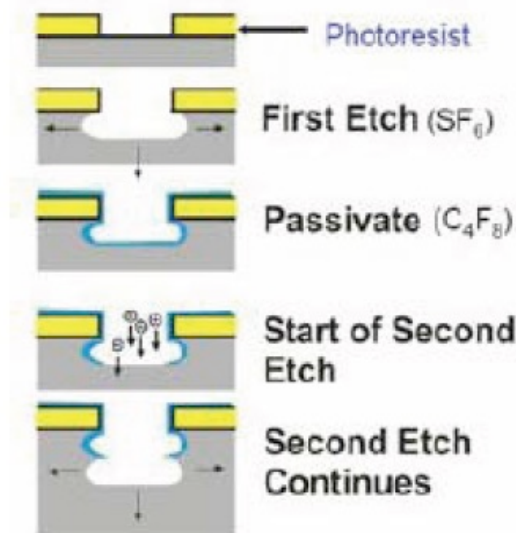

**Figure 1**
- (e) Refer to Figure 1. You are using 10:1 HF @ 20 °C to etch an MOS capacitor as shown. The etching rates are 1.0 nm/min and 30 nm/min for Poly-Si and SiO2 respectively. The as-printed mask line-width is 1 μm and you can only tolerate a maximum of 5% undercut on the poly-Si. Determine the maximum thickness of the poly-Si gate and the total etching time needed. State all assumptions in your calculation.